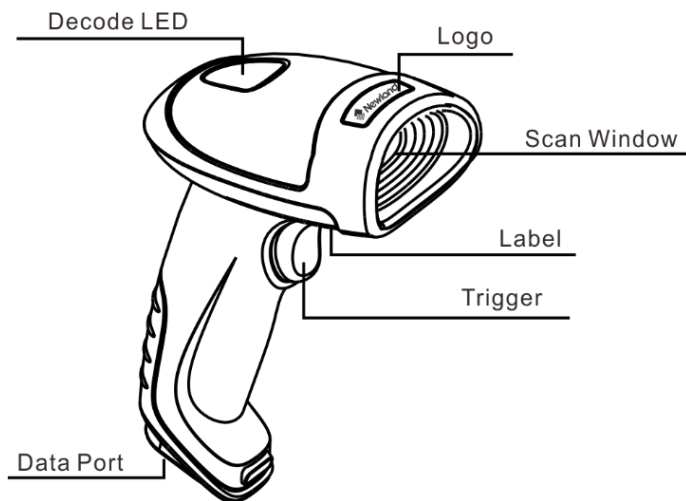

Fig. 1-1
1. Plug the RJ45 connector into the data port (see Fig.1-1) on the HR3280 scanner.